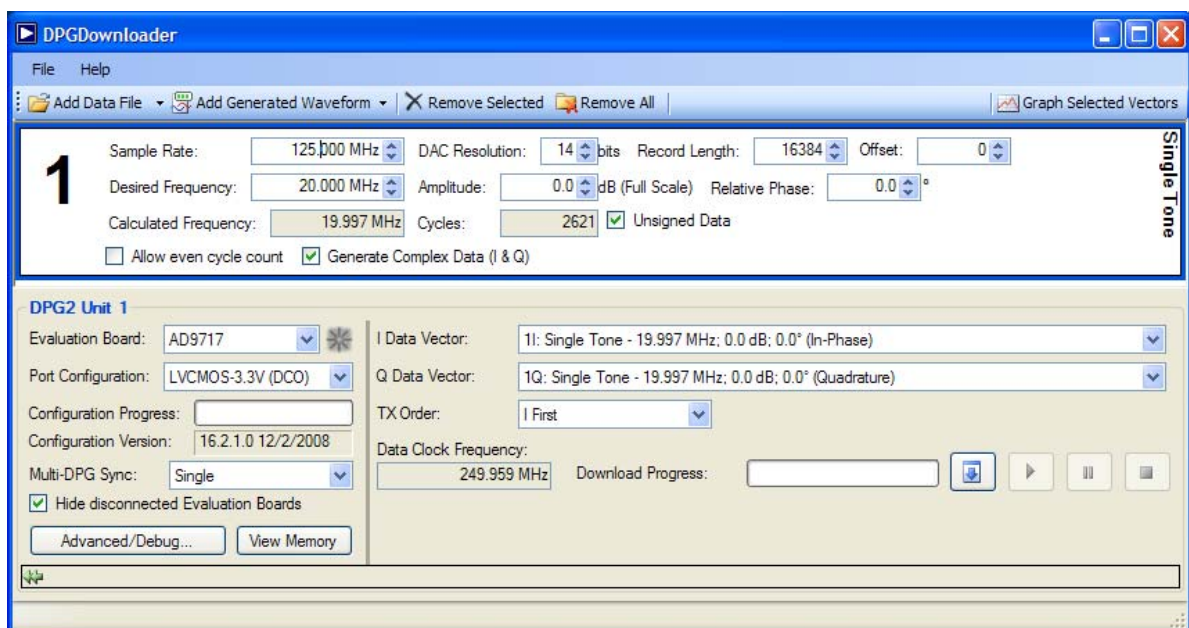

Figure 8. DPGDownloader
2. Input the f_{DAC} as the **Sample Rate** and enter 20 MHz for **Desired Frequency**. The **DAC Resolution** value is 14 bits, **Amplitude** of 0dB and **Record Length** is 16384, as shown in Figure 8.